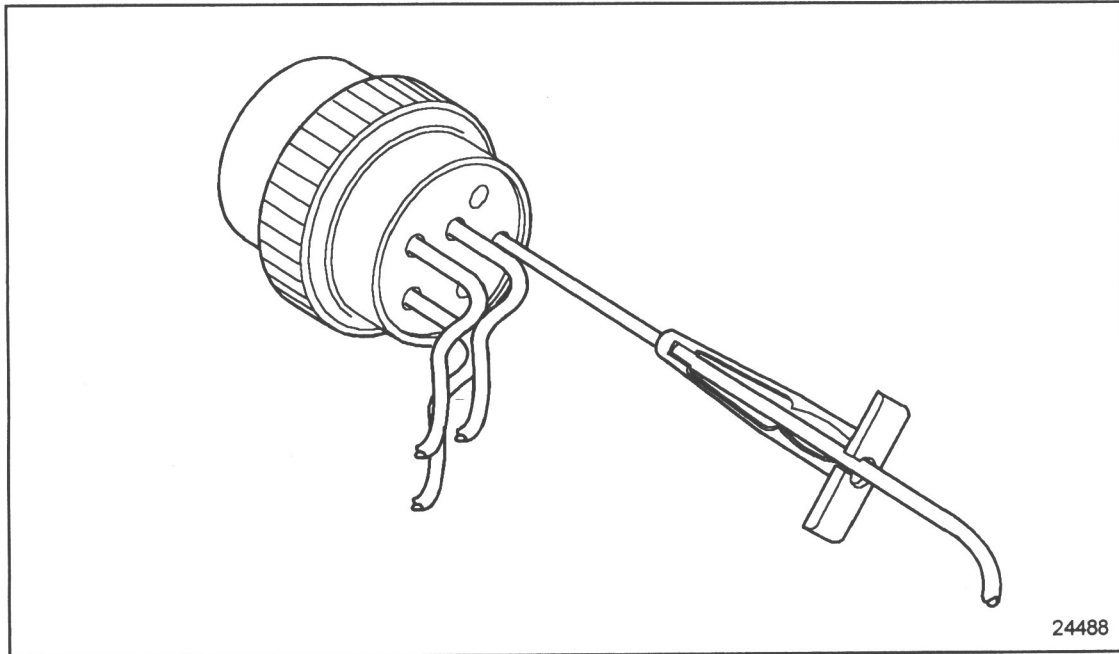

Figure 8-17 Removal Tool Position
1. With the rear insert toward you, snap the appropriate size remover tool over the cable of contact to be removed. See Figure 8-17.